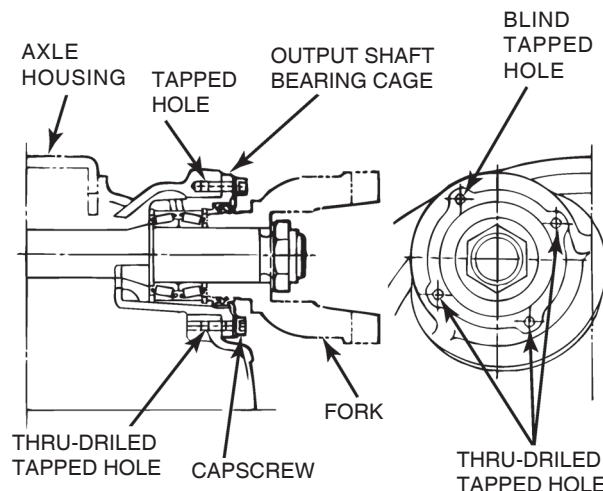

Figure 5.110
9. Apply a 0.25-inch (6 mm) length bead of Loctite 518 sealant in the thru-drilled tapped holes located at the two, five and eight o'clock positions. Figure 5.110.